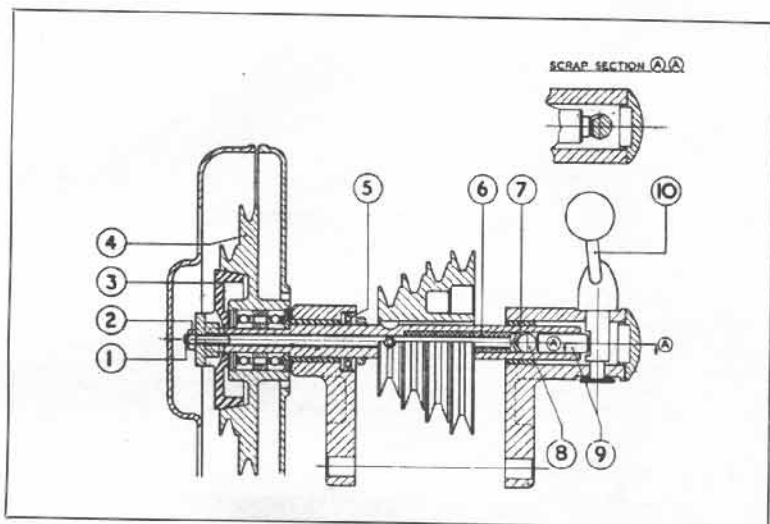

Fig. 37. Showing countershaft clutch layout.
Reference to Figure 37 will show that the countershaft clutch consists of a coned metal driving member, the clutchplate (3) which is tenoned into the end of the countershaft, and normally held in engagement with the tapered cone of the pulley (4) by a compression spring (2) which is inserted into the hollow countershaft (7) between the shoulder (6) which is inserted into the hollow of the push rod (1).